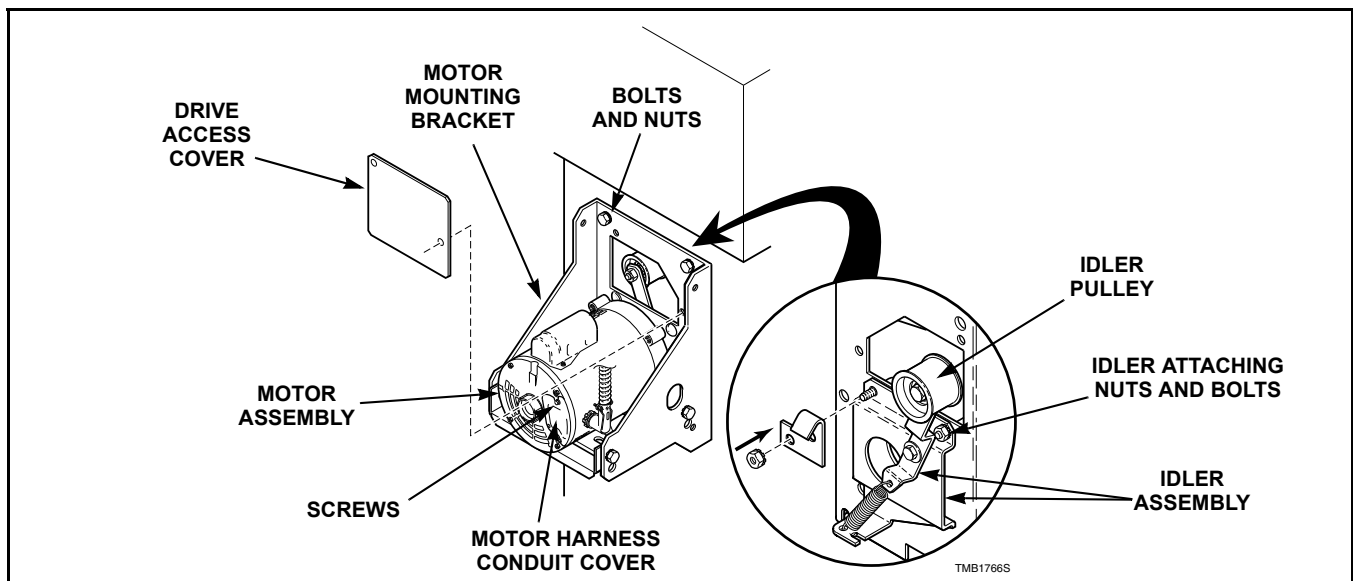

Figure 18
- e. Remove drive access cover at rear of tumble dryer. Refer to *Figure 18*.
- f. Reach into cabinet and carefully apply downward pressure on idler pulley. Slide belt off motor pulley and then slowly release pressure on idler pulley. Refer to *Figure 18*.
Refer to *Figure 18*.